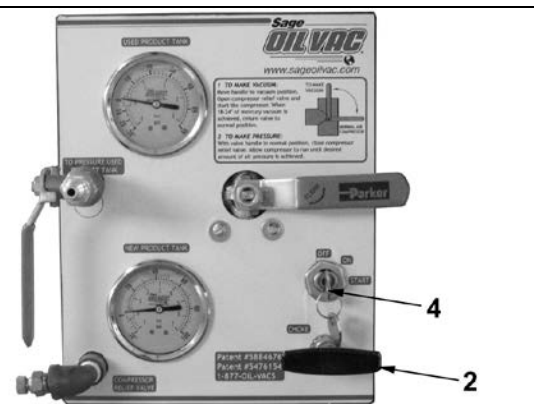

Figure 3 - Choke and Engine Switch
5. To start a cold engine, pull the choke lever (2) to the CLOSED position. To start a warm engine, leave the choke lever (2) in the OPEN position. See Figure 3.
7. Starting with engine switch: Turn the engine switch (4) to the START position. See Figure 3.